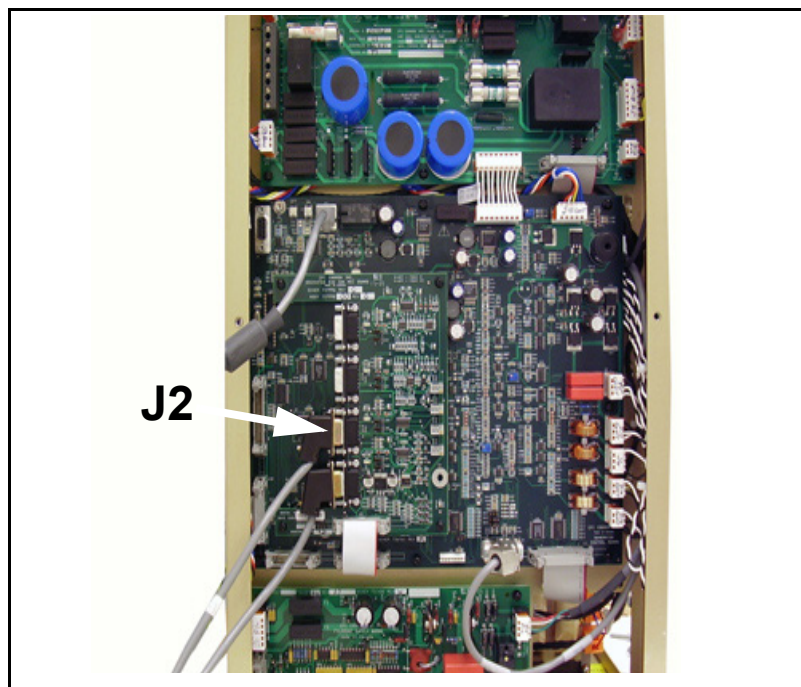
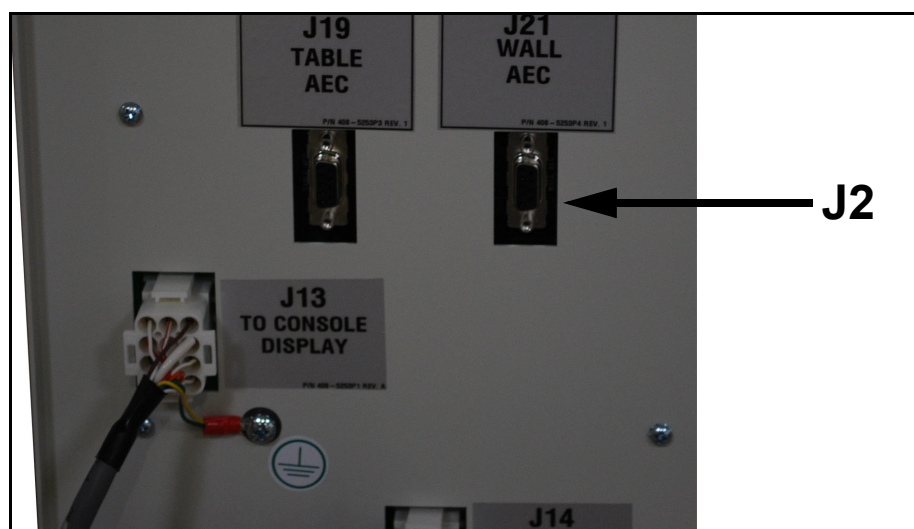

Figure 2-19. CPI CMP AEC Cable Hookup Point
Figure 2-21. Anthem Hookup Point
- 2 Connect other end of the AEC cable to J2 of the generator in locations shown in Figure 2-19 through Figure 2-21.